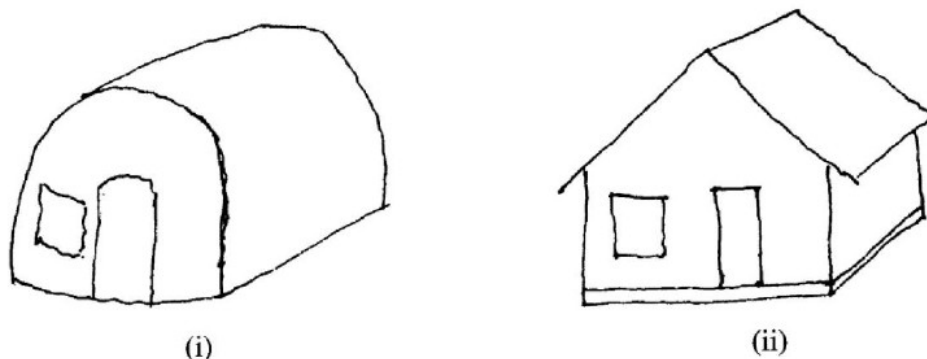

Figure 1
- 4 (a) State the type of climate where each of the types of buildings in **Figure 1** is used. (2 marks)